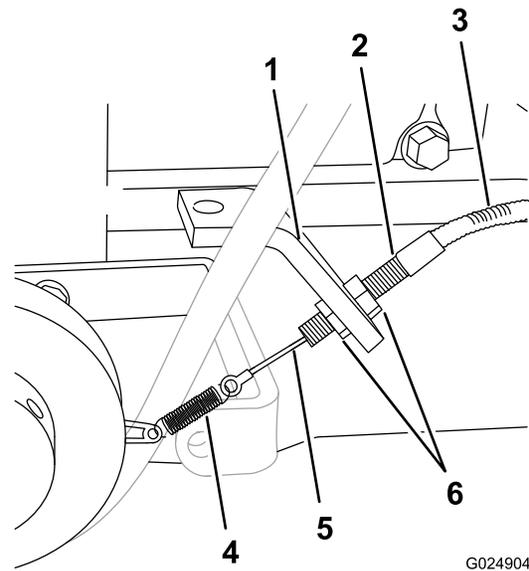

Figure 25
2. Loosen the 2 jam nuts that secure the barrel of the clutch cable to the clutch bracket, and rotate the nuts to either end of threads on the barrel (Figure 25).
3. Grasp the barrel with one hand and lift the cable housing lightly (Figure 25).
4. While holding tension on the cable, use your other hand, rotate the jam nuts until the nuts are flush to the clutch bracket (Figure 25).
5. Tighten the jam nuts to secure the barrel to the bracket (Figure 25).
- A. Loosen the 2 jam nuts slightly (Figure 25).
- B. Rotate the jam nuts to clockwise to increase cable tension or counterclockwise to decrease tension (Figure 25).
- C. Tighten the jam nuts to secure the barrel to the clutch bracket (Figure 25).